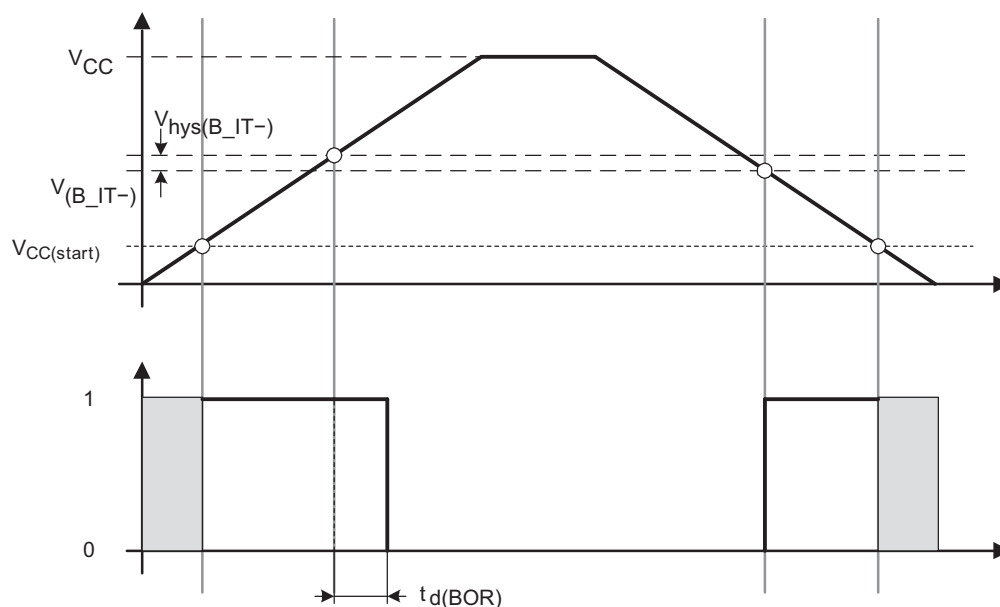
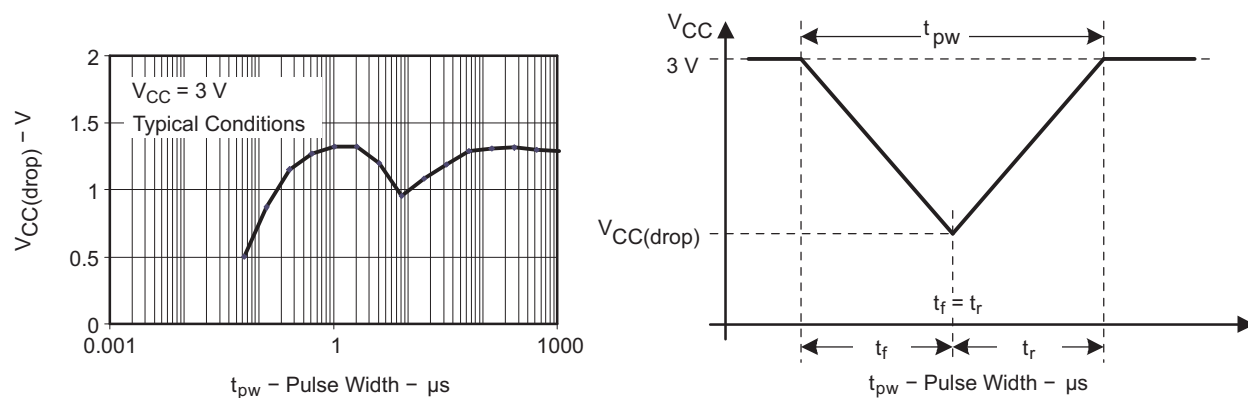

Figure 11. POR/Brownout Reset (BOR) vs Supply Voltage
Figure 13. $V_{CC(drop)}$ Level With a Triangle Voltage Drop to Generate a POR/Brownout Signal
| V _{CC(start)} | See Figure 11 | dV _{CC} /dt ≤ 3 V/s | | 0.7 × V _(B_IT-) | | V |
| V _(B_IT-) | See Figure 11 through Figure 13 | dV _{CC} /dt ≤ 3 V/s | | 1.35 | 1 | V |
| V _{hys(B_IT-)} | See Figure 11 | dV _{CC} /dt ≤ 3 V/s | | 140 | | mV |
| t _{d(BOR)} | See Figure 11 | See (2) | | | 2000 | μs |